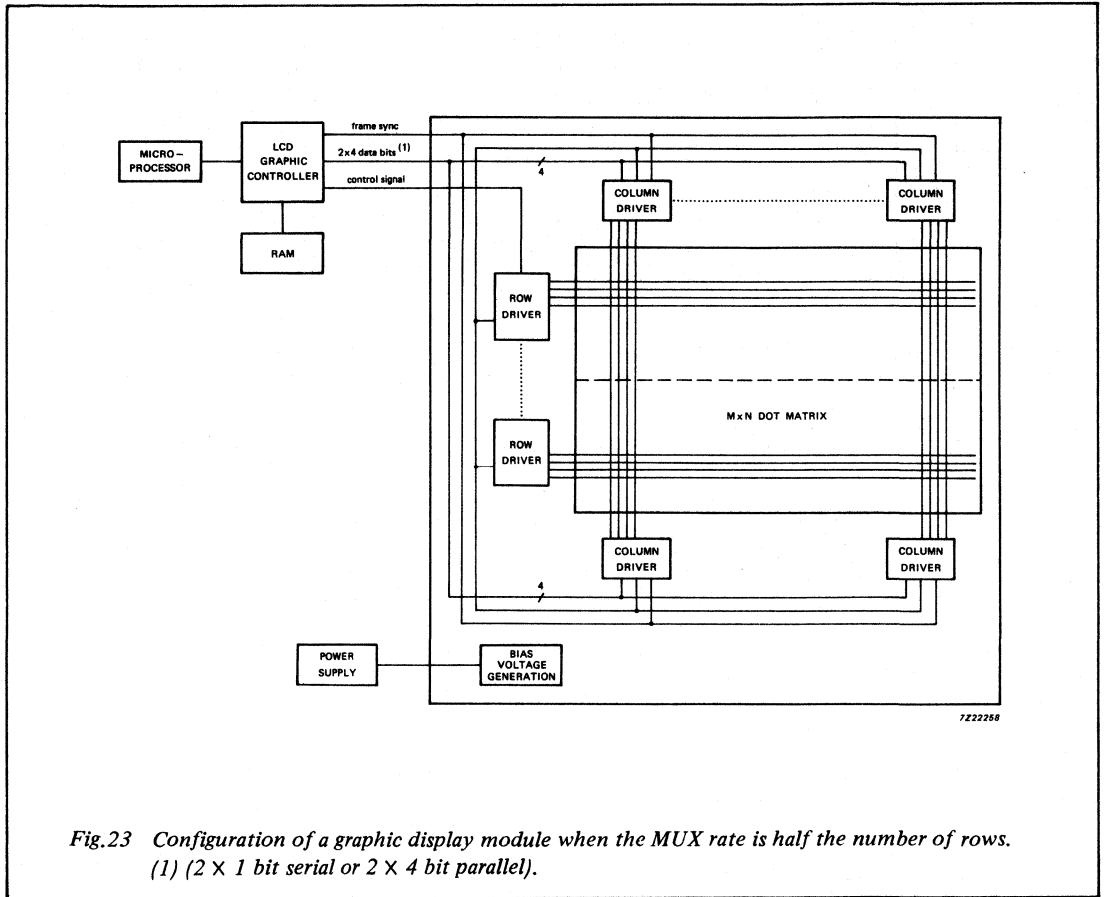

Fig.23 Configuration of a graphic display module when the MUX rate is half the number of rows.
- b) Module with a MUX rate equal to half the number of rows (Fig.23)